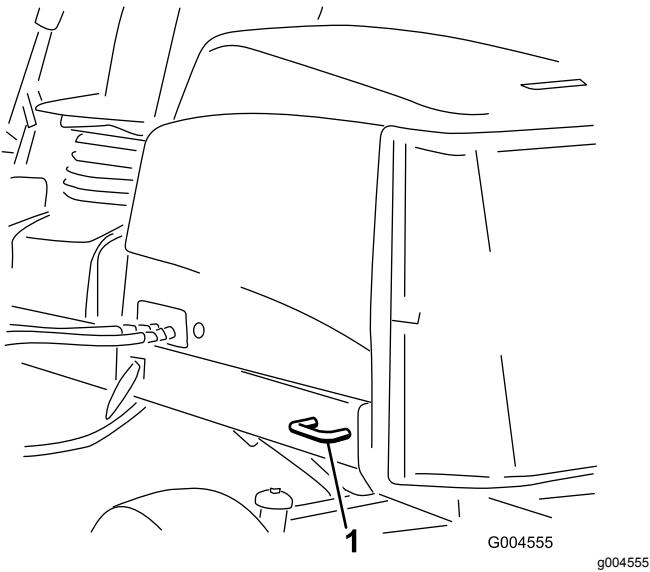

Figure 33
- Rear—each side of the machine on the rear frame (Figure 33)